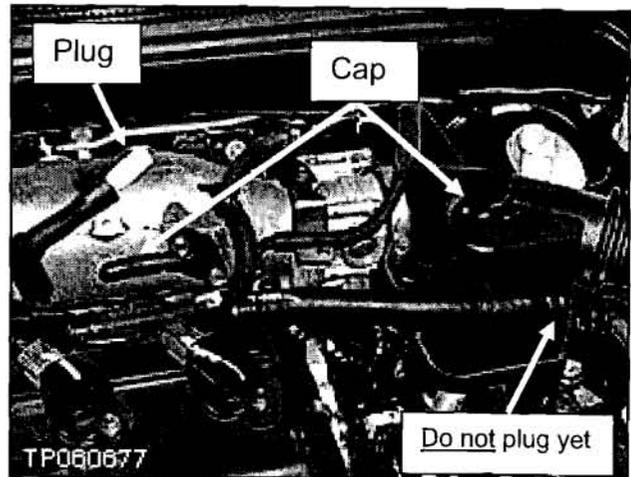

Figure C3
- Cap the ports, plug and clamp the hose as shown in Figure C3.